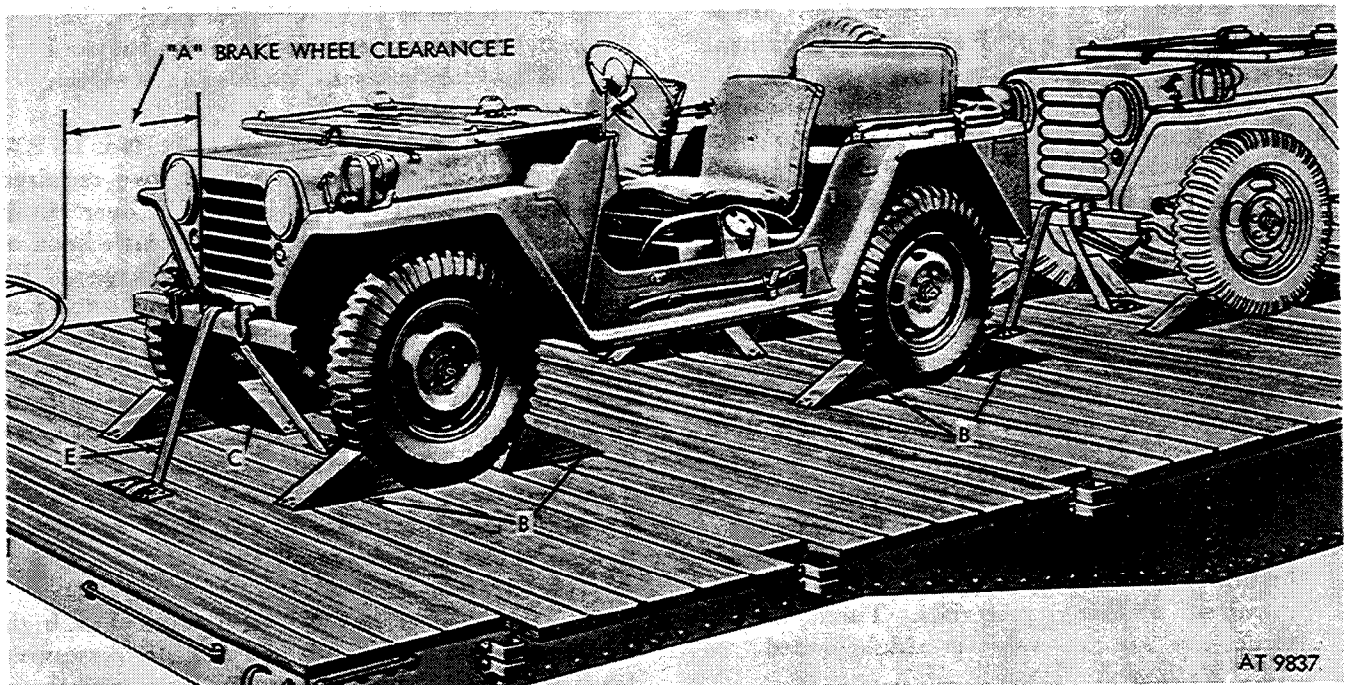

Figure 4-1. Methods of blocking the 1/4 ton, 4 x 4, M151, M151A1, and M151A2 on flatcars.
Pamphlet No. MD-7, Rules Governing the Loading of Defense Materiel on Open-Top Cars of Association of American Railroads. Additional blocking may be added, as required, at the discretion of the officer in charge. Doubleheaded nails may be used, except in the lower piece of two-piece cleats. All item reference letters in (2) through (5) below refer to details and locations shown in figures 4-1 through 4-6. The number of vehicles to be loaded will depend upon the length of flatcar.
(b) Inside wheel blocks "C" (6 x 9 x 12 four required per truck, constructed as shown in detail 1, figure 4-6). Locate the 6 x 9 surface of block flush against the inside of each wheel, as shown in figure 4-1. Nail heel of each block to car floor with forty-penny nails and toenail each side of floor with one forty-penny nail.
(c) Vehicle strapping "E" (1-in. No. 14 BW gage, hot-rolled steel, length to suit, two required per truck). Locate strapping "E" over front bumper of vehicle and through rear pintle hook of vehicle, as shown in figure 4-1. Pass strapping "E" over front bumper of vehicle and through, and nail anchor plates to car floor with eight twenty-penny nails. Substitute, if desired, four strands of No. 8 gage, black annealed wire, "E-1" twisted to form cables. Pass the cable over the bumper or through the pulling hook underneath and around random 2 x 4 x 18 cleat "F" with shim "F-1" (detail 6, fig. 4-6). Nail cleat lengthwise to car floor and twist-tighten cables to remove all slack.